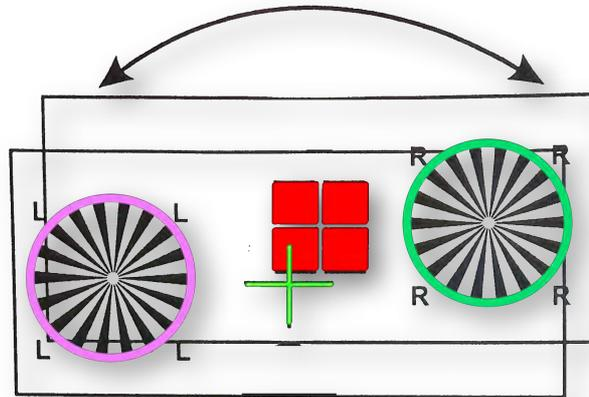

Fig. 5 : Focus the lens. Superimpose vertical lines of centre crosses by rotating lens in holder (See fig. 6)
- By rotating the lens slightly in the projector mount, superimpose the vertical lines of the adjustment crosses of both partial images on the screen, refocus if necessary, (fig. 5) and clamp the lens in this position in the mount. Now pull the baffle straight out of the lens and push it with its rear edge as close as possible to the film plane. Towards its rear, the baffle can be drawn a maximum of 4.0 cm (1.5”) out of the lens, measured from the rear edge of the lens.